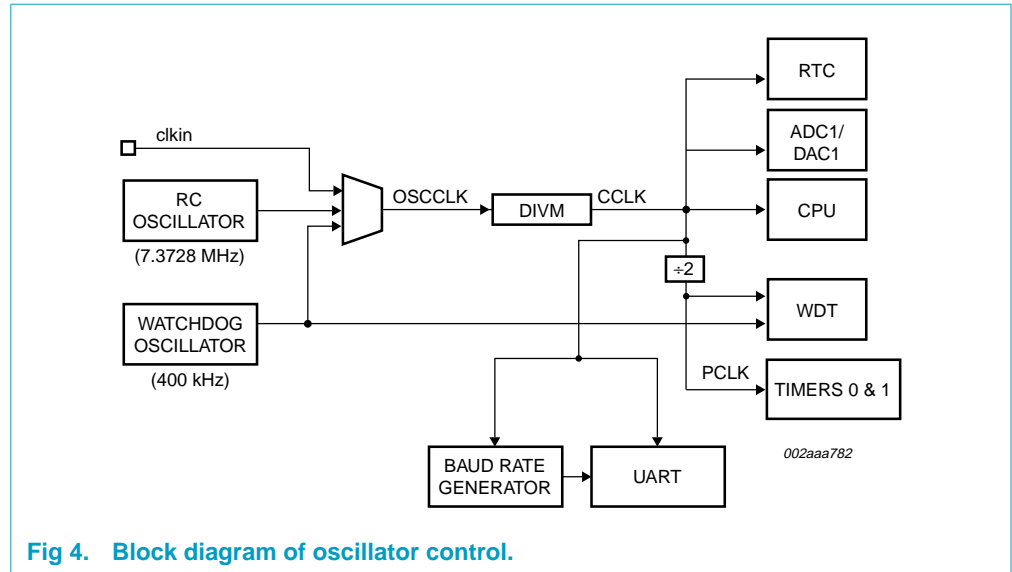

Fig 4. Block diagram of oscillator control.
**OSCCLK** — Input to the DIVM clock divider. OSCCLK is selected from one of the clock sources (see Figure 4) and can also be optionally divided to a slower frequency (see Section 8.7 “CPU CLOCK \(CCLK\) modification: DIVM register”).